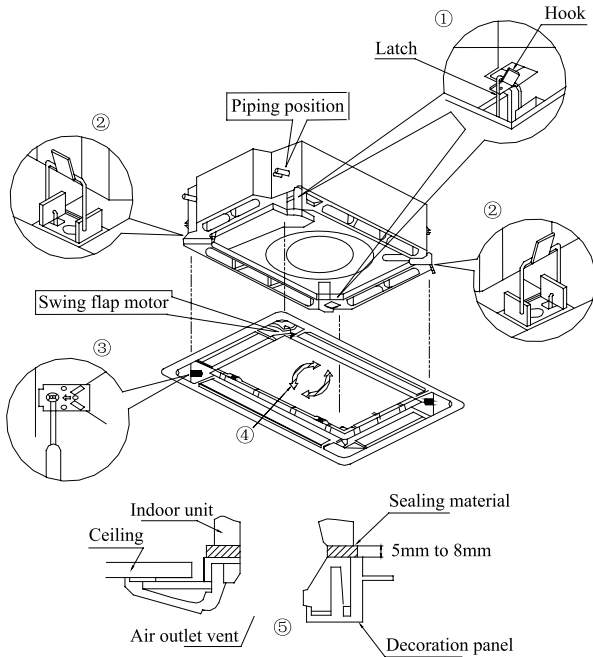

Fig.13
1. Set the panel to the indoor unit body by matching the position of the swing flap motor of the panel to the piping position of the indoor unit as shown by fig.13.
① Install the panel on the indoor unit temporarily. When install, hang the latch on the hook that is located on the opposite side of the swing flap on the panel of the indoor unit. (2 positions)
② Hang the remaining 2 latches to the hooks on the sides of the indoor unit.(Be careful not to let the swing motor lead wire get caught in the sealing material.)
③ Screw the 4 hexagon head screws under the latches in about 15mm. (The panel would rise)
④ Adjust the panel by turning it toward the direction pointed by the arrow as shown in fig.13, so that the adjust board connect the ceiling well.
⑤ Tighten the screws until the thickness of the sealing material between panel and indoor unit reduced to 5-8mm.